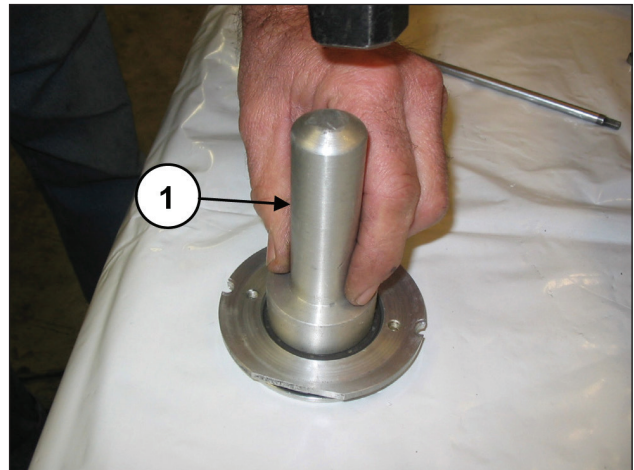

Fig. 174
Mount the oil seal in the oil seal cover (pos. ①, Fig. 174) using a buffer code 27910900.